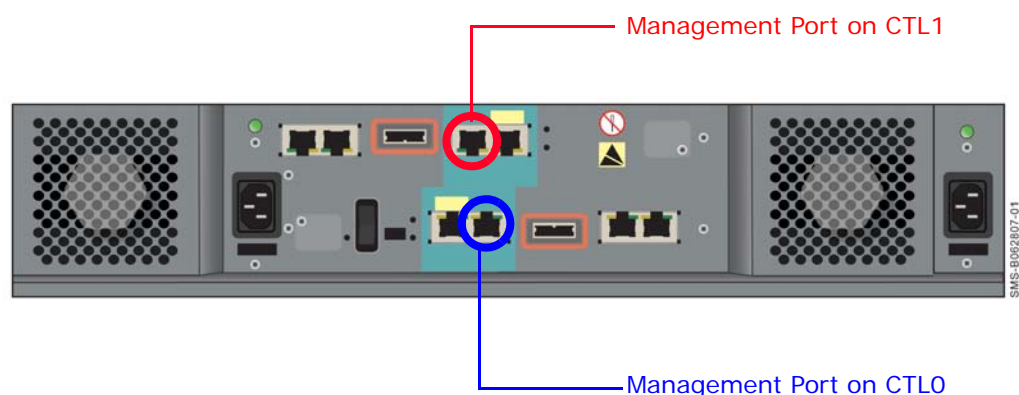

Figure 3-6: Management Ports
2. Connect the other end of the cable to the management port(s) labeled **LAN** on the back of your Hitachi Simple Modular Storage 100 (see Figure 3-6 on page 3-15).
NOTE: If your Hitachi Simple Modular Storage 100 has one controller, ignore the management port on CTL1 in Figure 3-6 on page 3-15.